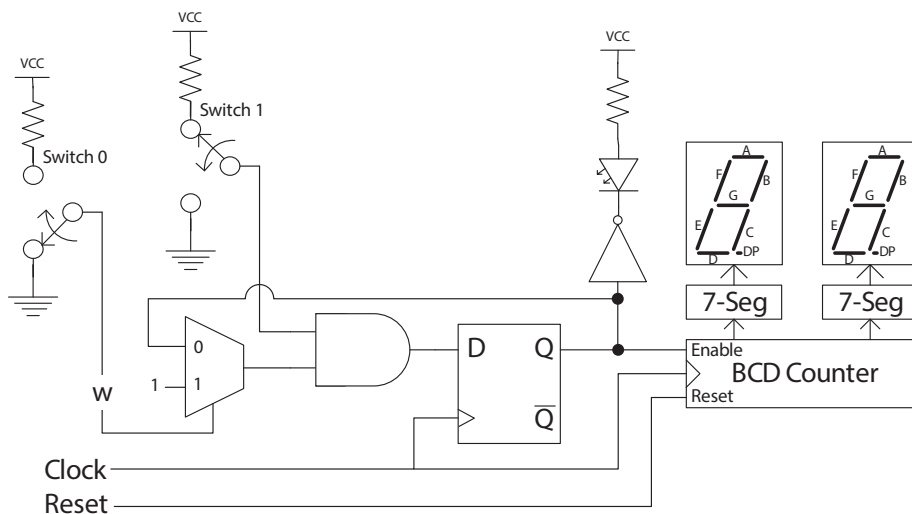

Figure 1: Circuit for Testing Your Reaction Speed
Figure 1 shows the overall circuit that you will design and build. You will use a clock (**Clock**) to drive a two-digit counter; the input control to the mux (**w**) will be a pulse that lights the LED. The LED will turn off as soon as the switch (connected to the AND gate) is pressed, and the signal **Reset** can be used to reset the counters, the display, and get the circuit ready to start over.
- 1.2. Now that you have a 100 Hz clock, you can use that to count the time it takes you to press the switch after the LED goes on and display that on two 7-segment displays. To accomplish this you will need to write a code that will increment the least significant digit and every time it reaches the number 9 you reset it and increment the most significant digit. Write Verilog code to implement the two digit BCD counter shown in Figure 1.
- 1.3. Write Verilog code to implement the entire circuit as shown in Figure 1. Use one of the LEDs on your board to test the code.